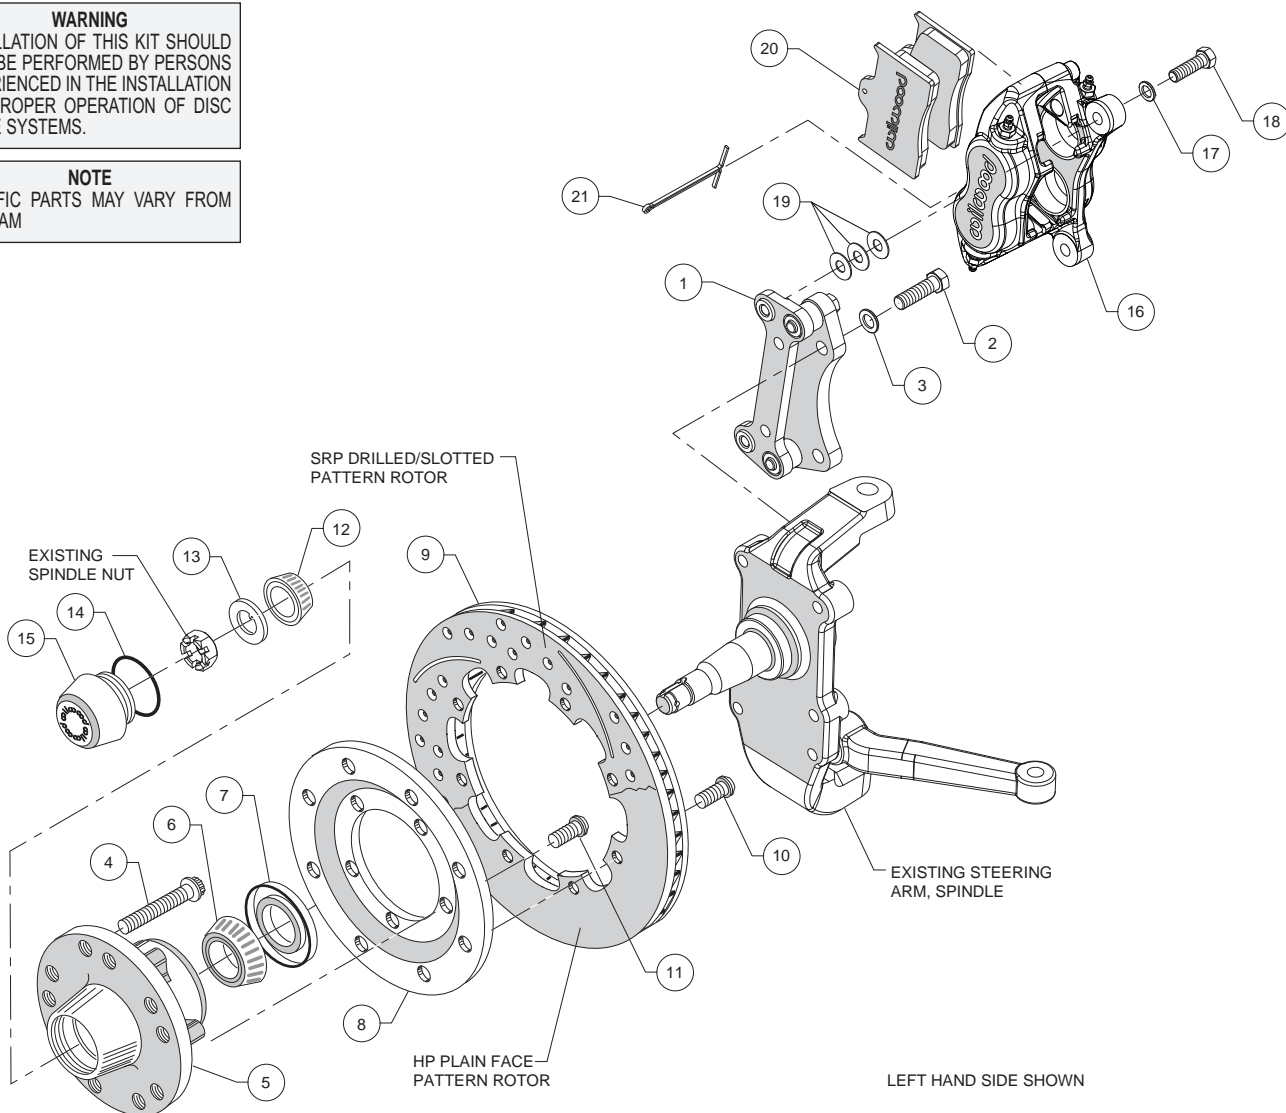
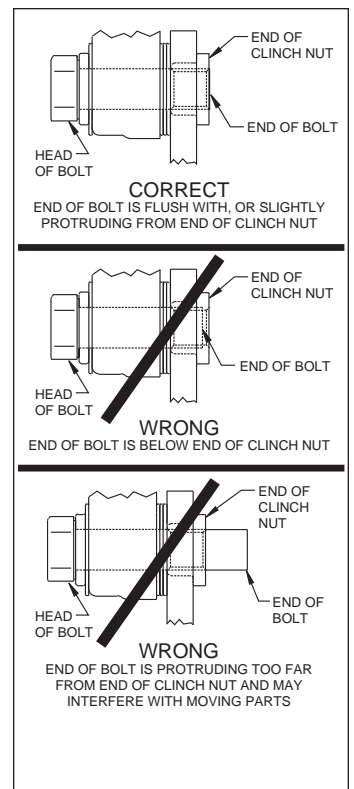

Figure 1. Typical Installation Configuration
Figure 3. Clinch Nut Engagement Diagram
**Assembly Instructions** (numbers in parenthesis refer to the parts list on the preceding page, and Figure 1): **CAUTION:** All mounting bolts must fully engage insert nuts. Be sure to check that all bolts are either flush or protruding through flanged side of clinch nut after shimming, Figure 3.
•Align caliper mounting bracket (1) with the corresponding holes, on the backside of the spindle and attach using bolts (2) and washers (3), as shown in Figure 1 and Photo 1. Temporarily tighten the mounting bolts. Ensure that the flanged heads of the clinch nuts in the bracket are facing outboard, Photo 1. **NOTE:** The bracket must fit squarely against the mounting points on the spindle. Inspect for interference from casting irregularities, machining ridges, burrs, etc. Remove bolts one at a time, apply red *Loctite*® 271 to threads, and torque to 55 ft-lb.
- Orient the rotor (9) and the rotor adapter (8) as shown in Figure 1 and Photo 4. Attach the rotor to the adapter using bolts (10). Using an alternating sequence, apply red *Loctite*® 271 to the threads, and torque to 25 ft-lb.
- Mount the adapter/rotor assembly (8/9) to the hub (5) using bolts (11), as shown in Figure 1 and Photo 5. Using an alternating sequence, apply red *Loctite*® 271 to the threads, and torque to 45 ft-lb.
- Pack the small outer bearing cone (12) with high temperature disc brake bearing grease and install into hub (5). Slide the hub/rotor assembly onto the spindle. Secure using spindle washer (13) and OEM spindle nut, Photo 6. Adjust bearings per OEM specifications. Install saved OEM nut lock (if any) and a new cotter pin (not included).
- Screw dust cap (15) into hub (5), Photo 7. Friction created by the o-ring (14) on the dust cap keeps it from unscrewing. **NOTE:** The O.D. of the existing OEM spindle washer may be larger than the I.D. of the dust cap not allowing it to seat against the hub face. Therefore, use the spindle washer (13) supplied with the kit instead of the OEM washer.
- NOTE:** Please reference the caution statement at the beginning of the assembly instructions. Mount the caliper (16) onto the caliper mounting bracket (1) using bolts (18) and washers (17), as shown in Figure 1. Initially place three .035" thick shims (19) on each bolt between the caliper and the bracket, Photo 8. Temporarily tighten the mounting bolts and view the rotor (9) through the top opening of the caliper. The rotor should be centered in the caliper, Photo 9. If not, adjust by adding or subtracting shims between the bracket and the caliper. Always use the same amount of shims on each of the two mounting bolts. **NOTE:** The end of each bolt must be flush with or slightly protruding from the head of the clinch nut, as shown in Figure 3. If necessary place spare shims between washer (17) and caliper mounting ear to achieve the proper clinch nut engagement. Once the caliper alignment and clinch nut engagement are correct, remove the bolts one at a time, apply red *Loctite*® 271 to bolt threads, and torque to 40 ft-lb.